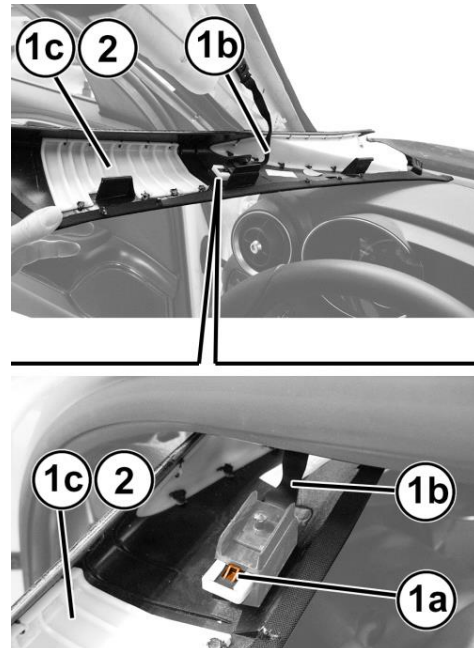

Figure 21 – A-Pillar Trim Tether
49. Using a small flat bladed tool, remove the white cap to release the tether clip (1a) and pull it out from the bottom (1b), then remove the A-pillar trim panel (1c) (Figure 21).
12. Install the tether to the A-pillar trim panel, making sure it is engaged fully and install the white clip (Figure 21).